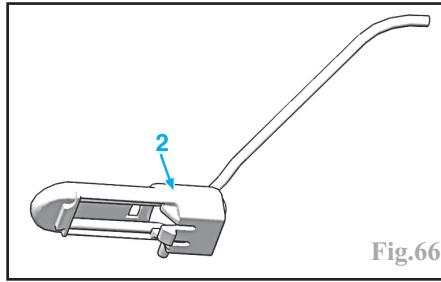

Fig.66
Déposer les ressorts (2) (Fig.66).